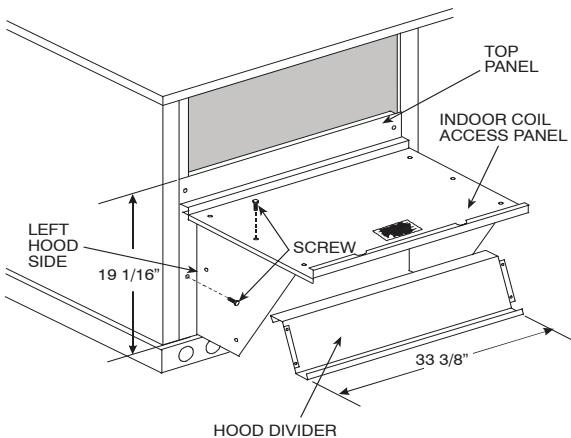

Fig. 25 – Outdoor-Air Hood Construction
4. Swing out indoor coil access panel and insert the hood sides under the panel (hood top). Use the screws provided to attach the hood sides to the hood top. Use screws provided to attach the hood sides to the unit. (See Fig. 25.)
6. Insert the hood divider between the hood sides. (See Fig. 25 and 26.) Secure hood divider with 2 screws on each hood side. The hood divider is also used as the bottom filter rack for the aluminum filter.